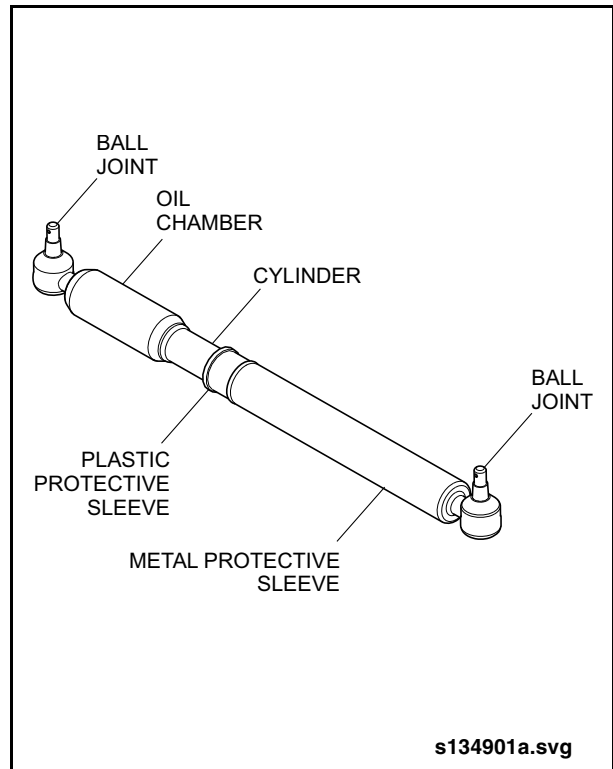

Fig. 1: Steering Damper Inspection
- Check for excessive play at ball joints ends. See “Fig. 1: Steering Damper Inspection” on page 2.